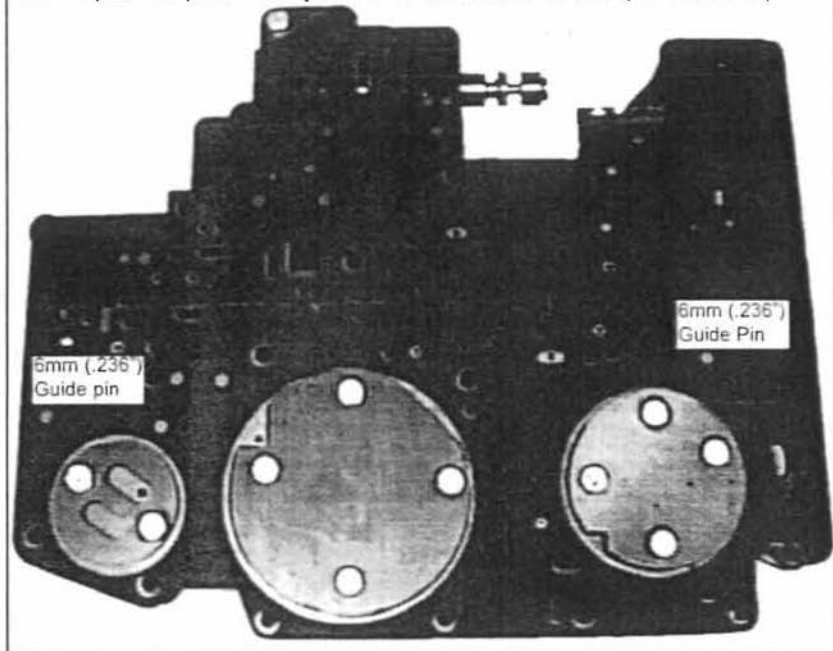
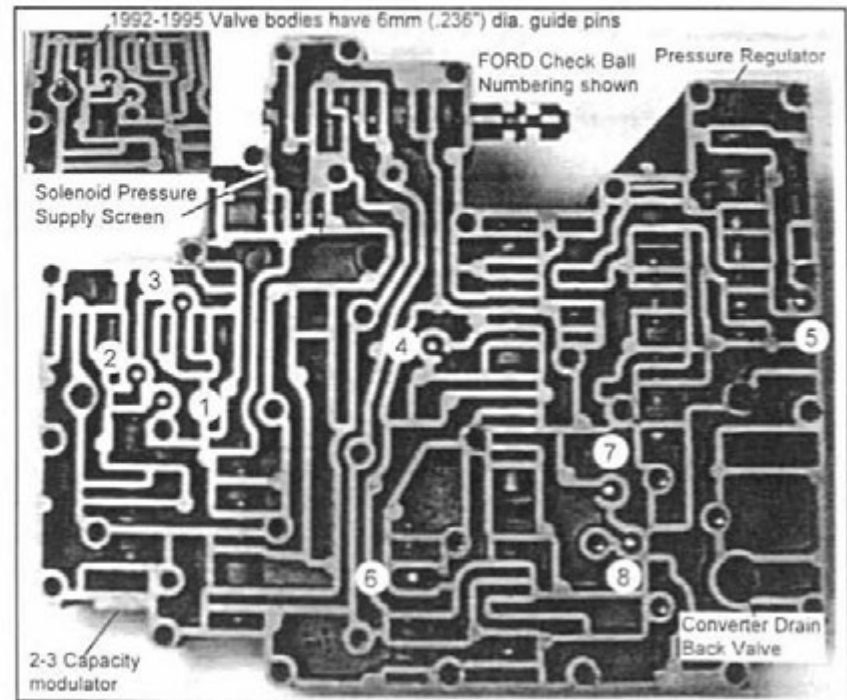

Figure 3. '92-'95 (TYPE A) Valve Body & Cover Plates
Figure 9. '92-'95 Check Ball Locations (TYPE A Valve Body)
valve body on a clean surface with the separator plate side facing up. Make a note of the orientation of the three round reinforcing plates (See Fig. 3). Remove the eleven (11) 8mm hex head bolts holding the three (3) round reinforcing plates and separator plate to the valve body. Carefully lift the separator plate and gaskets off the valve body. Remove Check Balls, Solenoid Pressure Supply Screen and Converter Drain Back Valve (See Fig. 9). Remove all of the old separator plate gasket material from the case, valve body and separator plate surfaces. Rinse parts with solvent.
Step 12. Install all 8 Check Balls, Solenoid Pressure Supply Screen and Converter Drain Back Valve into valve body (See Fig. 9 or 12). Make sure the two (2) guide pin bolts are installed